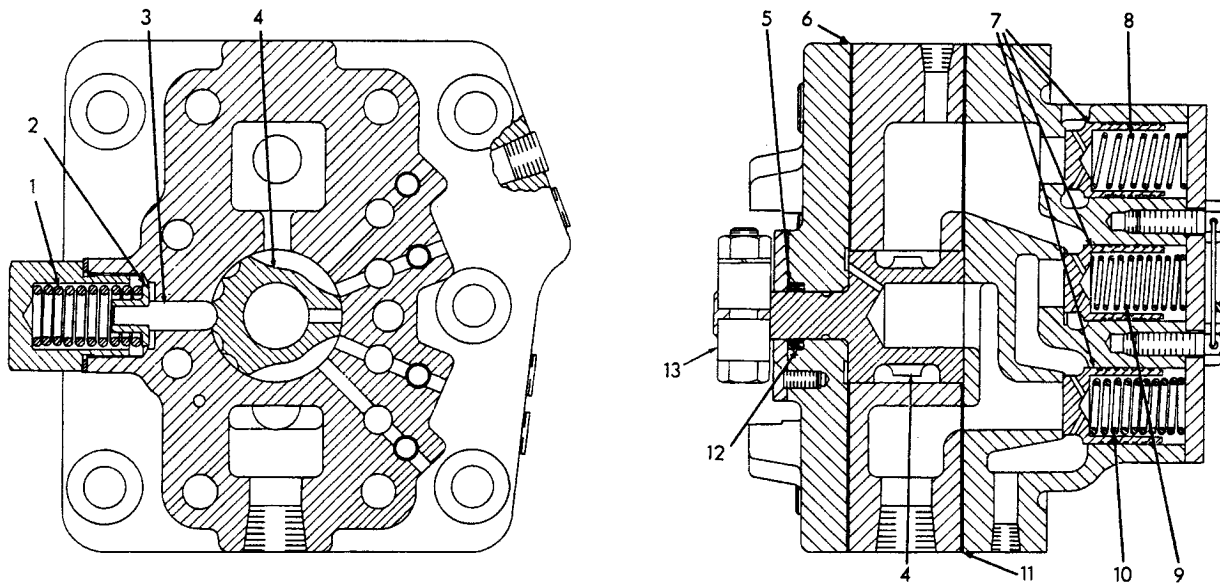
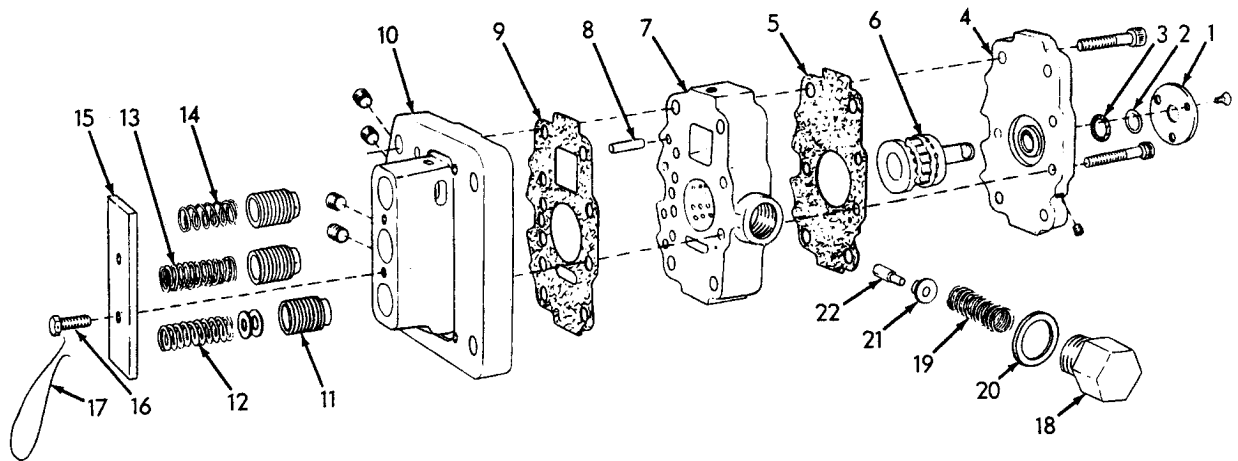

Fig. 12 -- Range Selector Valve - Sectional View
Fig. 13 -- Range Selector Valve Parts
- d. Remove detent cap and washer Fig. 12; pull detent assembly from housing. Loosen rotor lever capscrew; pull lever and woodruff key from rotor stem.
- f. Remove pressure spring retaining plate, Fig. 13; remove springs, valves, and shims (if any). Keep each valve and spring together.
(2) Eff. with HD6EP S/N 16007 and HD7G S/N 23003 - Free height $2 \frac{1}{8}$ "; load when compressed to $1 \frac{9}{32}$ " 5 lbs. Shims may be added to bring spring within specifications.
a. Install rotor and place gasket on each side of rotor housing. Align the three valve sections; install attaching capscrews but do not tighten. Coat rotor oil seal and rotor stem with oil; carefully install seal over rotor stem into valve head (sealing lip directed toward rotor). Install seal retaining washer and plate Fig. 13; tighten capscrews attaching the three valve sections.
b. Turn rotor so keyway in stem is directly opposite detent location; install detent assembly, Fig. 13, spring, and cap. Install woodruff key and rotor lever; move lever each direction to be certain detent assembly works properly. Return rotor to neutral (middle) position.
- c. Install pressure regulating valves, Fig. 12; install pressure springs (with required shims) in proper valve, Fig. 13. Install spring retaining plate; lock capscrews with locking wire.